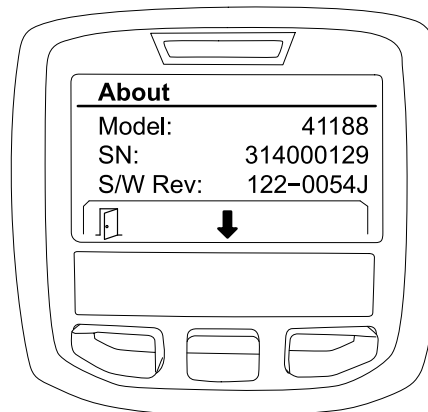

Figure 37
2. Use the middle selection button to scroll through the about screen items (Figure 37).